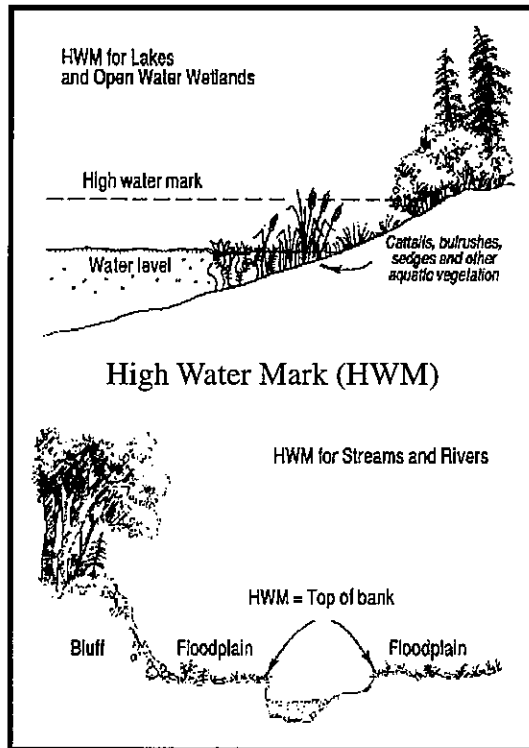

Figure ROAD-3
- ✓ **Avoid locating roads below the identifiable high water mark** of lakes, open water wetlands, seasonal ponds, and rivers and streams. See Figure ROAD-3. Work in public waters and public water wetlands can proceed only with a permit from DNR Waters, which can be obtained from DNR offices noted in the *Resource Directory* under *Water Crossings*.